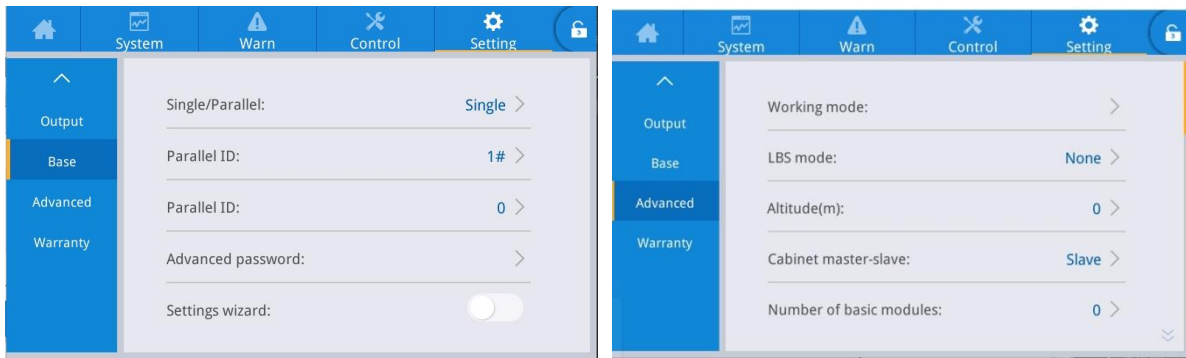

Fig.5-8 Parallel parameter setting interface
2. Set 1, 2, 3 and 4 in turn in the [cabinet number] of the setting interface of basic parameters. The parallel operation of at most 4 UPSs is supported, as shown in Figure 5-8.
3. Set the number of UPS in the parallel system in [number of system stands] of the advanced parameter setting of the setting interface, as shown in Fig. 5-8.
4. Set one UPS of the parallel system as mast and other UPS as the slave in the [rack master-slave setup] of the advanced parameter settings in the settings interface. The master-slave refers to the communication master-slave of the rack, that is to say, one UPS is the host for monitoring communication, and the other UPS are the slave for monitoring communication. The parameters of other UPS can be set on the communication host, and the slave automatically synchronizes the parameters of the master (for the independent battery pack, the battery parameters will not be synchronized), as shown in Fig. 5-8.